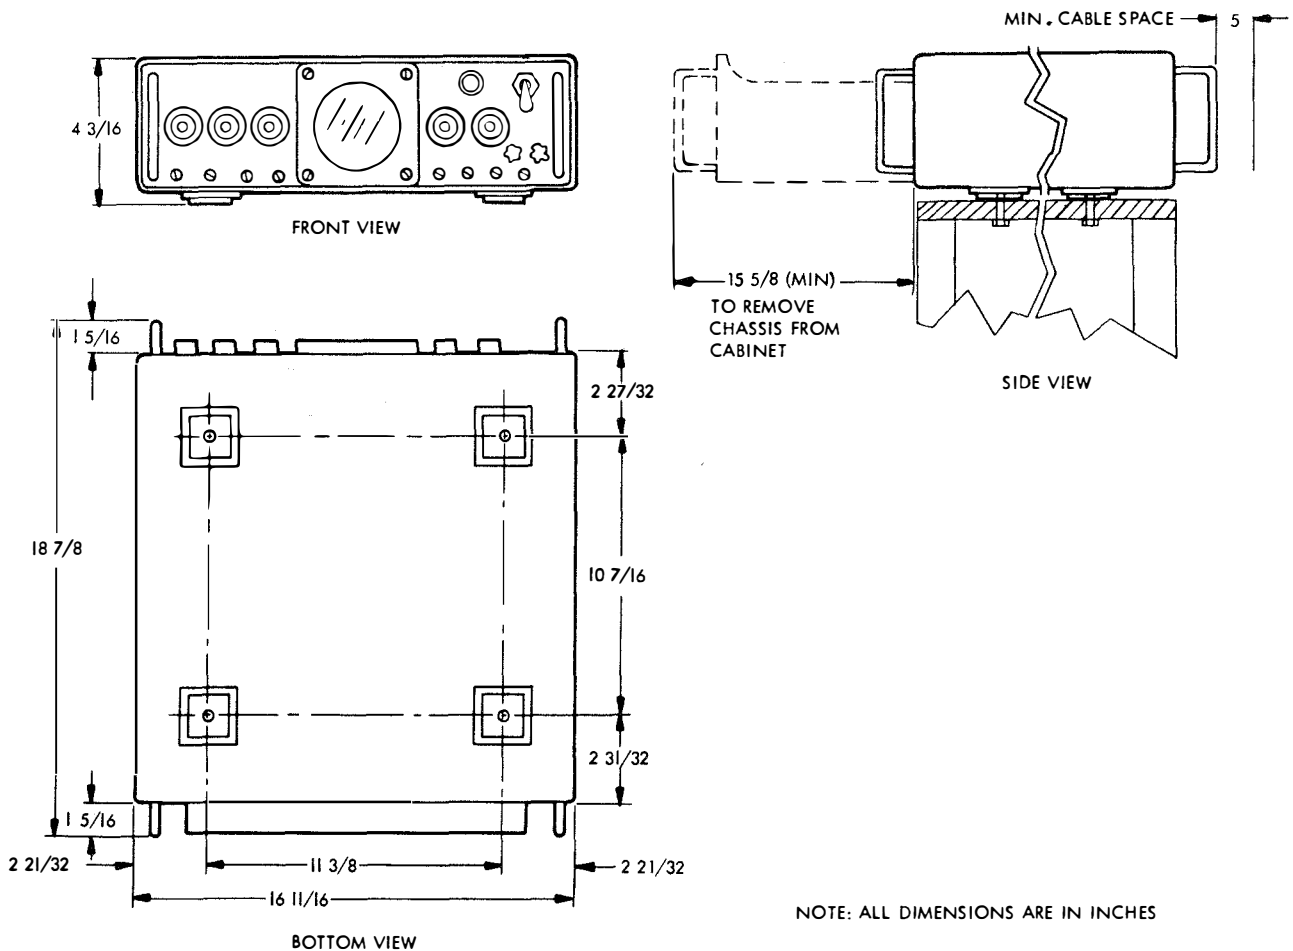

Figure 2-2. Frequency Shift Converter CV-483C/URA-17, Table-Mounting Installation Drawing
a. OUTLINE DRAWINGS. - Figure 2-1 shows all mounting dimensions and clearances required for table-mounting the AN/URA-17C. Figure 2-2 shows all mounting
(2) TABLE-MOUNTING THE CV-483C/URA-17. - Table-mounting of the CV-483C/URA-17 is performed as follows
- Step 1. Layout and drill four 9/32 inch holes (figure 2-2) through mounting surface.
(3) RACK-MOUNTING THE AN/URA-17C. - Rack-mounting of the AN/URA-17C is performed as follows